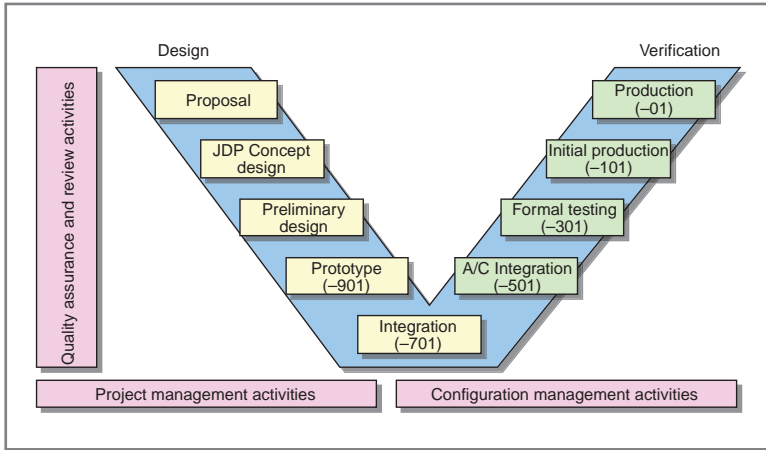

Figure 2—Development phases for aircraft equipment
Figure 2—A potential condition that could occur when the solution that involves building an indication of the concurrency of the data is applied to Case Study #1.
Let's take an in depth look at the third solution above (busy bit) and show how a faulty implementation of the busy bit solution fails because of TOCTTOU issues. If we wrongly apply this solution to Case Study #1, the condition that could occur is shown in Figure 2.
Figure 2 shows development engineering activity in more detail. It's important to remember that each phase represents a lot of activity with one exit when the criteria are satisfied. The entire process should be supervised by quality assurance (QA) to prevent cutting corners and to maintain configuration control.